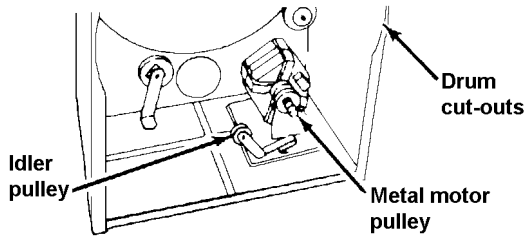

Figure 6
1. If drum belt is not broken, remove belt from metal motor pulley. See Figure 6.
2. The drum can then be lifted through the cut-outs on the front flange of the cabinet sides. See Figure 6.